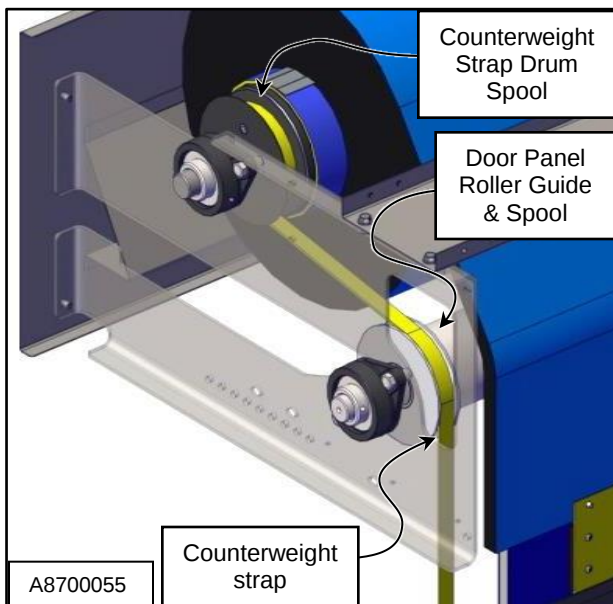

Figure 51
10. Wrap the strap around the spool three times. The strap must hang off the front of the spool as shown. (See Figure 51)